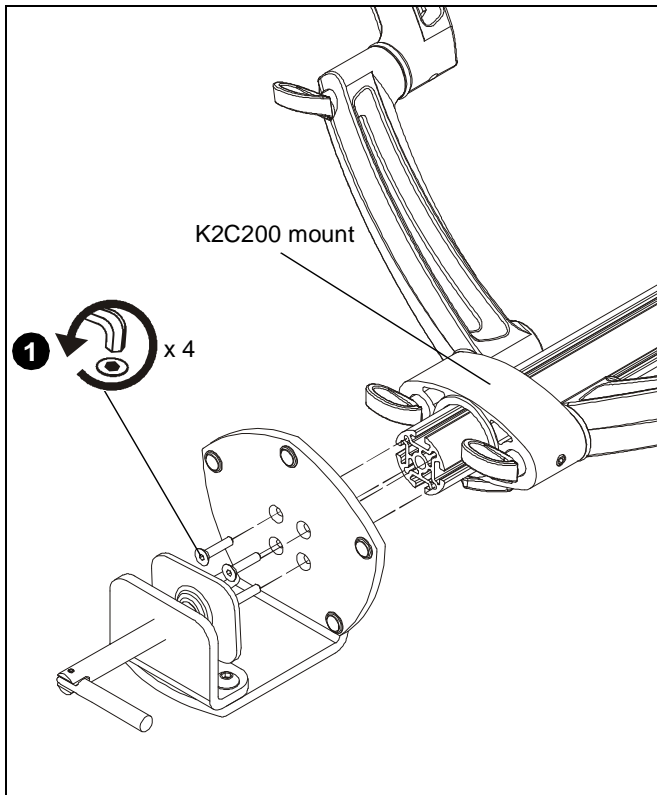

Figure 1
1. Remove desk clamp from K1C/K2C mount by removing four flat head cap screws holding clamp to column. Discard four screws. (See Figure 1)